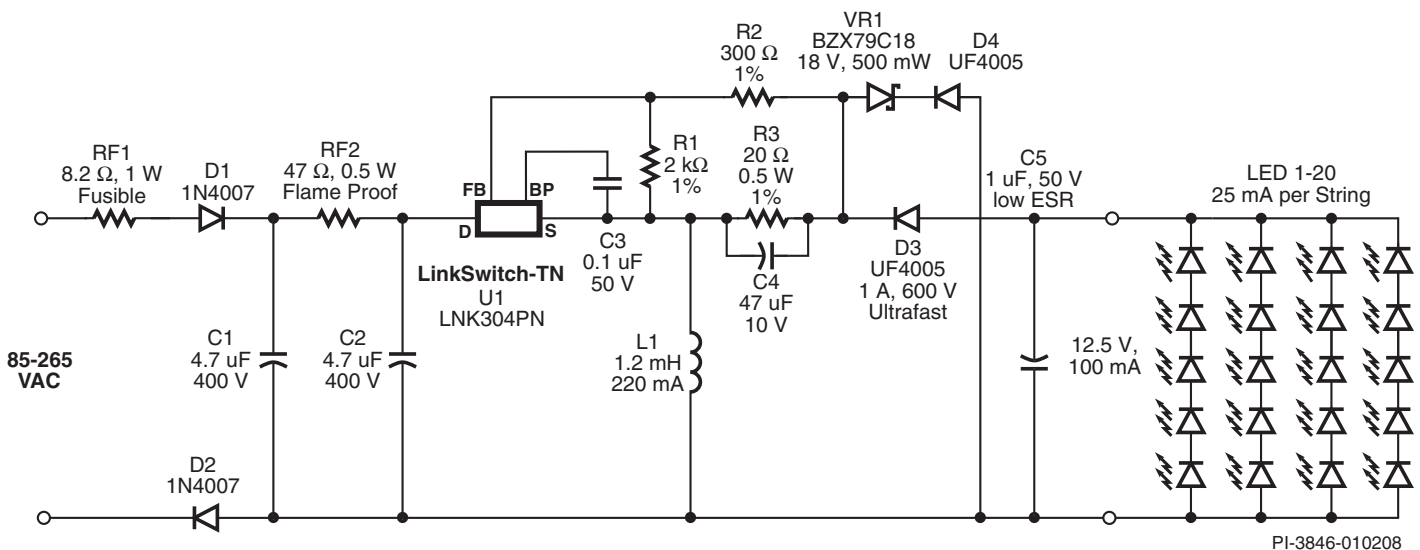

Figure 1. Schematic of a 1.25 W, 12.5 V, 100 mA Constant Current LED Driver, Using a Non-Isolated Buck-Boost Topology.
Using the Buck-Boost topology, the circuit shown in Figure 1 generates a non-isolated constant current (CC) output for driving LEDs. Typical uses include night-lights, neon sign replacements, emergency exit signs or any application utilizing LEDs for lighting.
- The circuit shown in Figure 1 has a total output current tolerance of $\pm 12\%$ (including Δt of 50 °C).